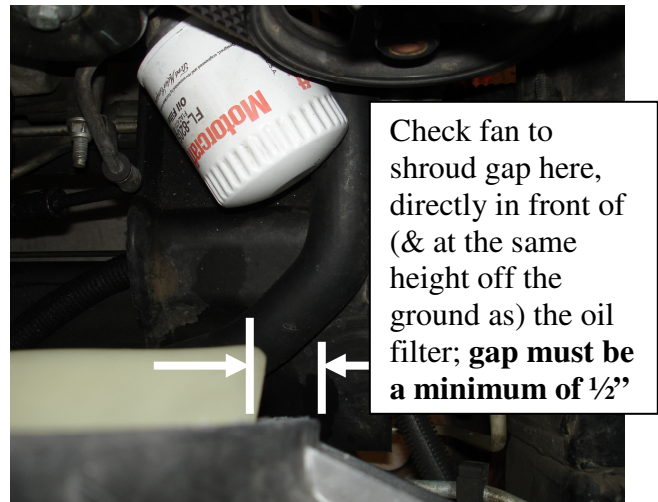

Figure 24
30. Ensure the fan is centered within the shroud opening, and that there is a **minimum of 1/2" gap** between the fan blades and the shroud at a position approximately halfway between the 7 o'clock & 8 o'clock positions (as viewed from behind the shroud; Figure 24)